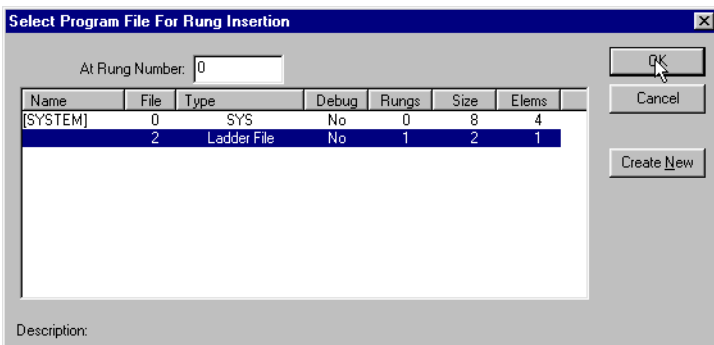

FIG. 4-20 SELECT PROGRAM FILE FOR RUNG INSERTION
- Step 13. Click on the Insert Ladder Rungs button. The Select Program File for Rung Insertion dialog box appears. (See Fig. 4-20)